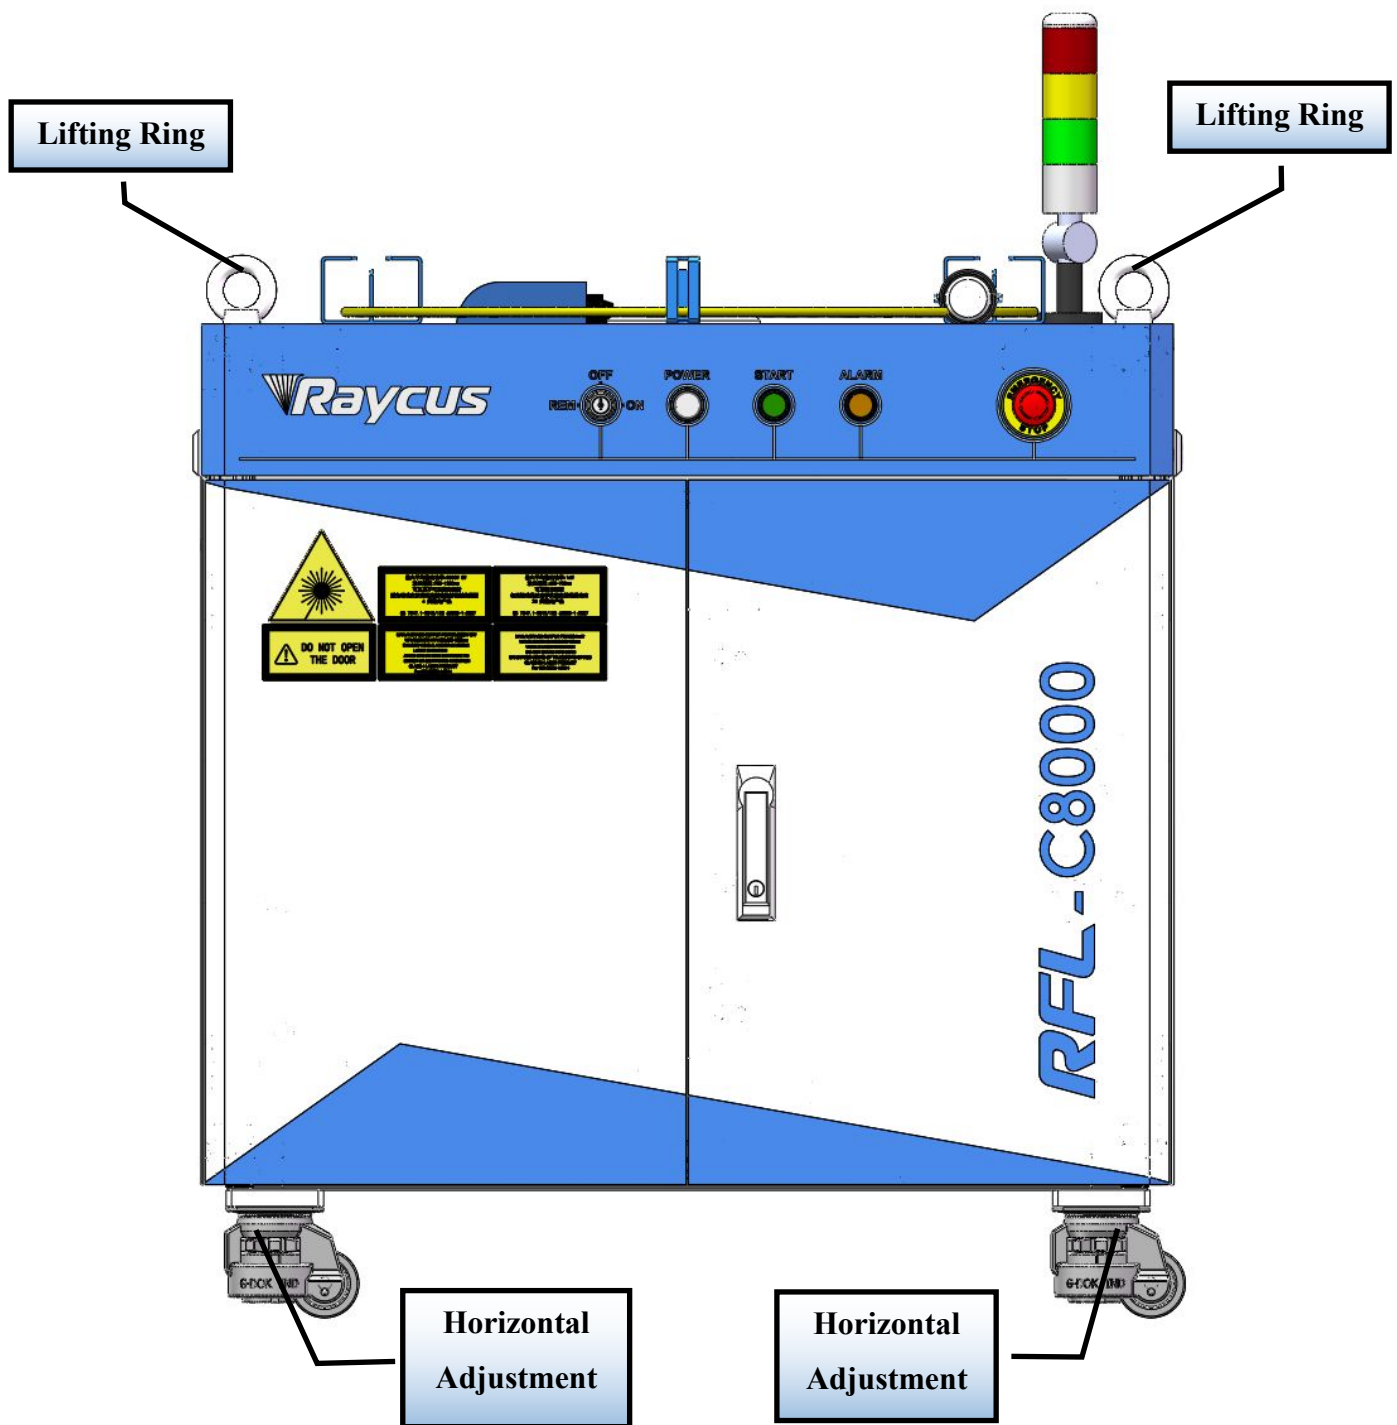

Figure 4 Laser lifting ring and horizontal adjustment caster
- i) Customers can use the four lifting rings at the top of the product or the four casters at the bottom to lift or move the product. Before lifting the laser source, make sure that the four lifting rings are installed firmly and reliably. When lifting the laser source, be sure to use the four lifting rings; when pushing the laser source, please make sure that the support block at the bottom of the horizontal adjustment caster is off the ground. After the laser source is positioned, adjust the support block to make it contact the ground to avoid displacement of the laser source. As shown in Figure 4(Take C8000M-HPas an example).